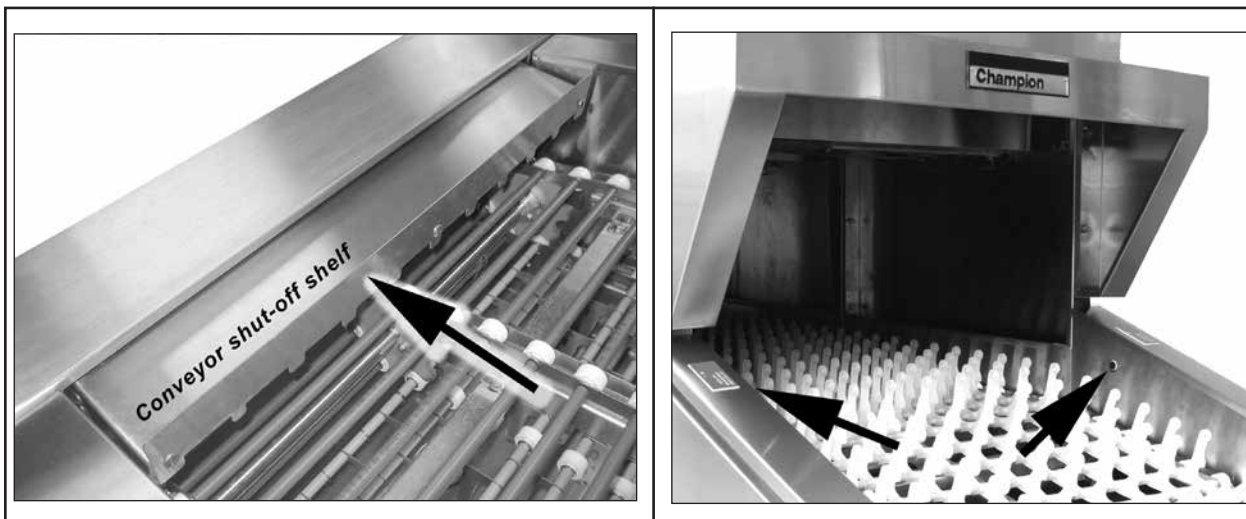

Fig. 2
- Make sure the conveyor shut-off shelf moves freely and the photo-eyes are clear. (Fig. 2).